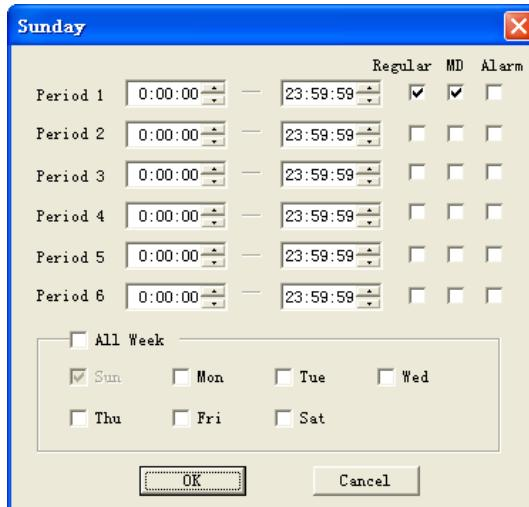

Figure 7-28
- ◊ Period: There are six periods for you to define. Click set, next to the corresponding period. See Figure 7-28. note The setup here is based on a 24 hour cycle. E.g. 00.00 to 24.00.